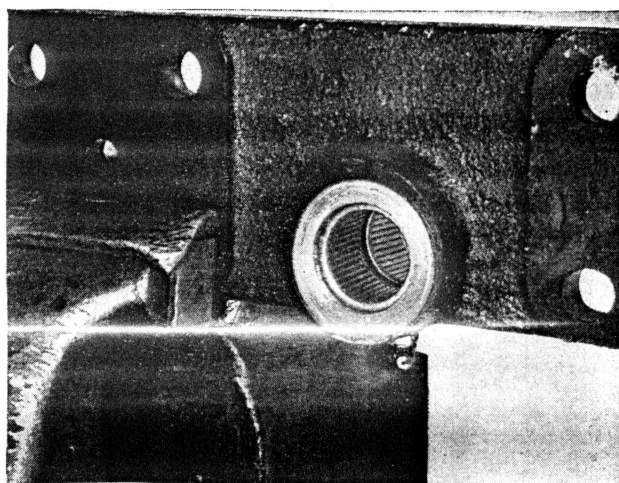

Fig. 36
K. If axle center bearing should warrant replacement, (Refer to Fig. 36) they may be pressed from the axle center.